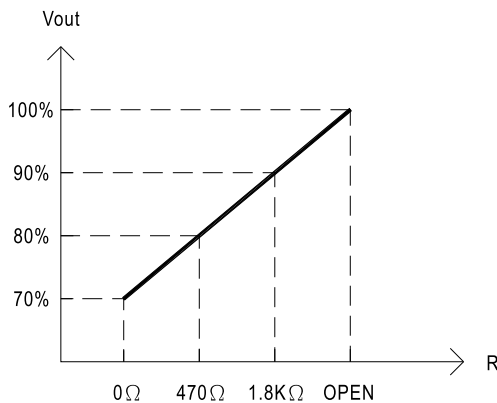

Fig. 3.1 External Resistor (Typical)
- (1) Adjustment of output voltage is possible between 70~100%(Typ.) of the rated output which is shown in Fig. 3.1